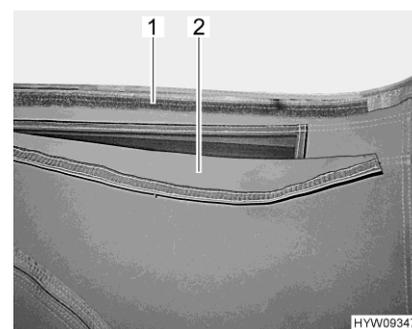

Fig. 60 Ventilation (open)
- Pull the fabric flap (Fig. 60,2) upwards and press down the Velcro strap (Fig. 60,1).